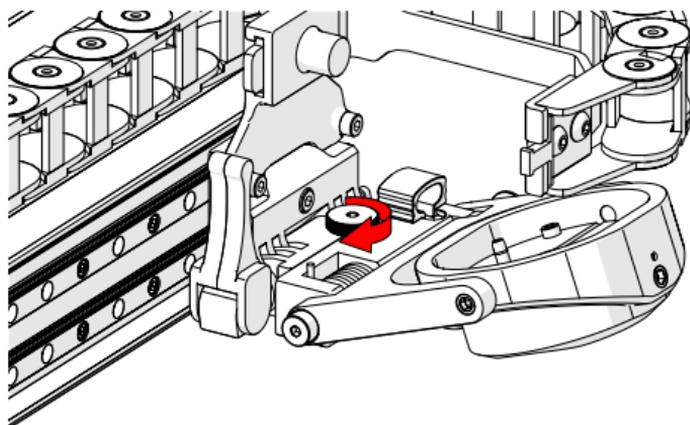

Fig. 130 - Tighten knob
2. Tighten the probe holder adjustment knob (*Fig. 130*).